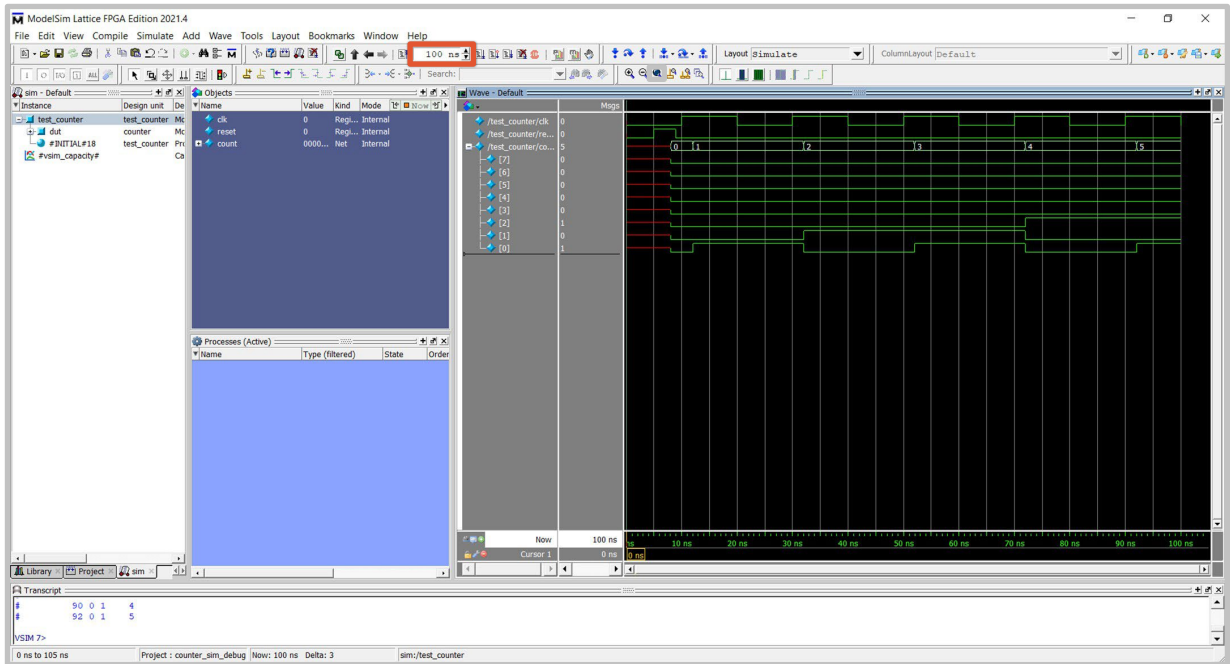

Figure 7: Zooming on the ModelSim Waveform
- From the **Objects** window, choose the top-level signals and drag them over to the **Wave** window. Run for 100 nanoseconds and the **Wave** window will display the timing diagram of the signals. Click **Zoom Full** to see the full picture, see **Figure 7**.